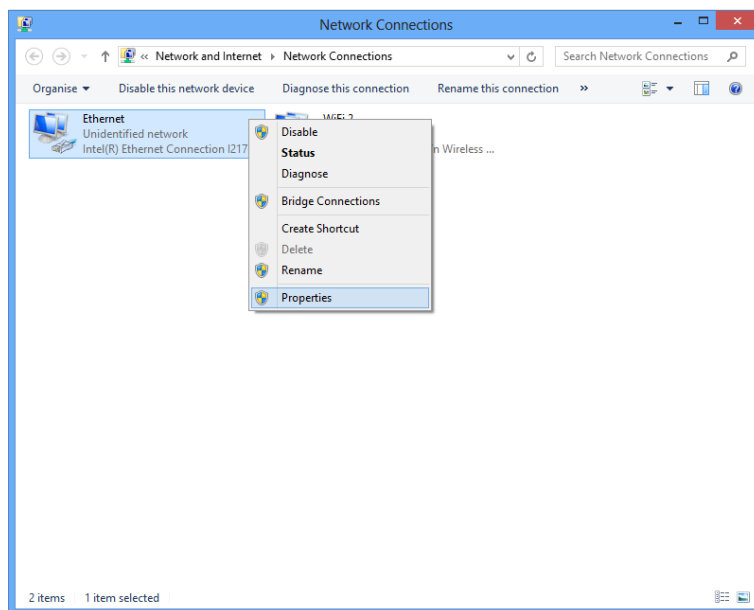

Fig. 4.7: Network Connections window
3. Right-click on the Ethernet icon and select "Properties" (**Fig. 4.7**).